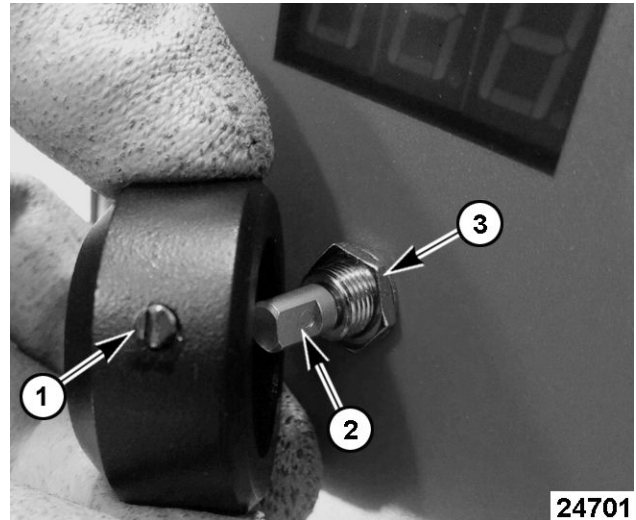

Fig. 43
4. Loosen set screw (1, Fig. 43) in tapped hole on knob.
5. Remove encoder nut (3, Fig. 43) to remove encoder.
**NOTE:** Tapped hole needs to be aligned with flat part (2, Fig. 43) of encoder. Align tab in control panel hole needs to align with groove in encoder.